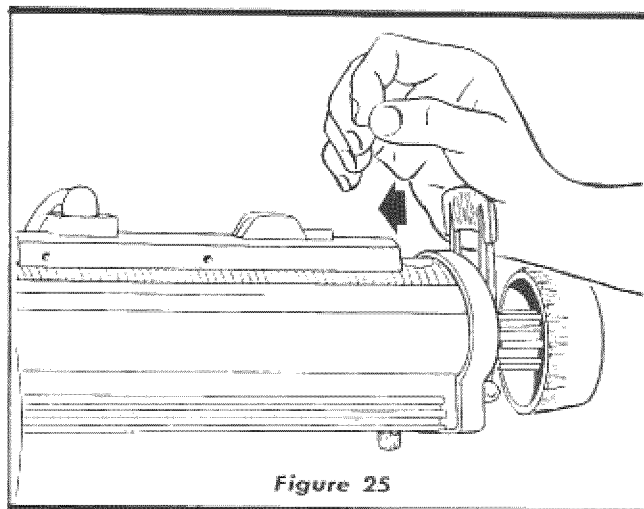

Figure 25
2. Move the radial arm into the index position (do not bump or jar) and push on the handle or the arm latch lever solidly with the palm of the hand. (See figure 25.) This is very important as it insures proper seating of the arm lock pin in the arm latch, thus always returning the arm to the correct cross-cut (0°) position.